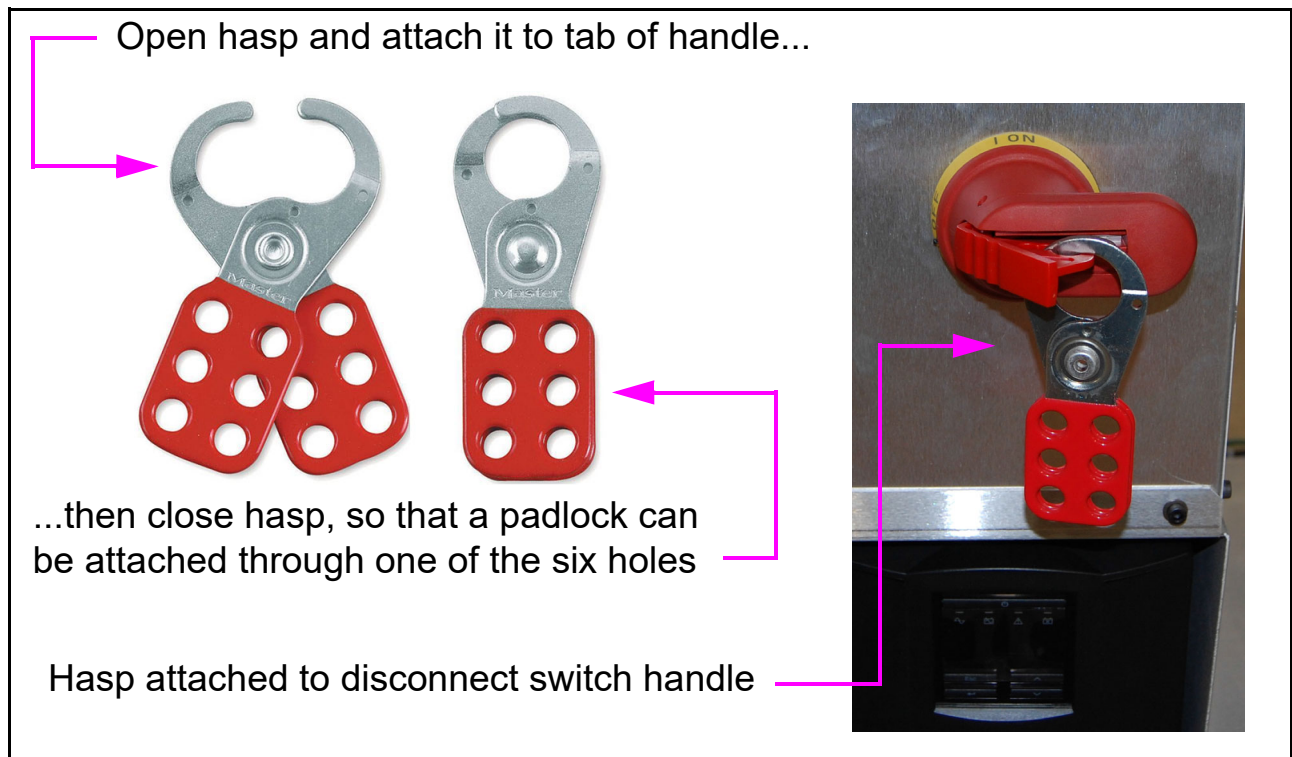

Figure 2-16: Hasp Detail
8. Pull the tab out on the main disconnect switch handle and place a hasp through the tab (see Figure 2-16).